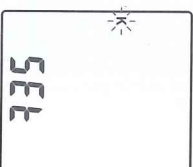

Fig.4
- (1) Power off the meter first. Press and hold MIN MAX button, then press F.O.I. button to power on and enter setting mode. Release all buttons, the LCD blinks "SET".
- (2) Press ▼ (°C) button to Selecting Thermocouple type (see Fig.4)
- (3) Press ▲ (T1-T2) to select from K, J, E, or T type thermocouple.
- (4) When done, press ▼ (°C) button to exit setting mode.